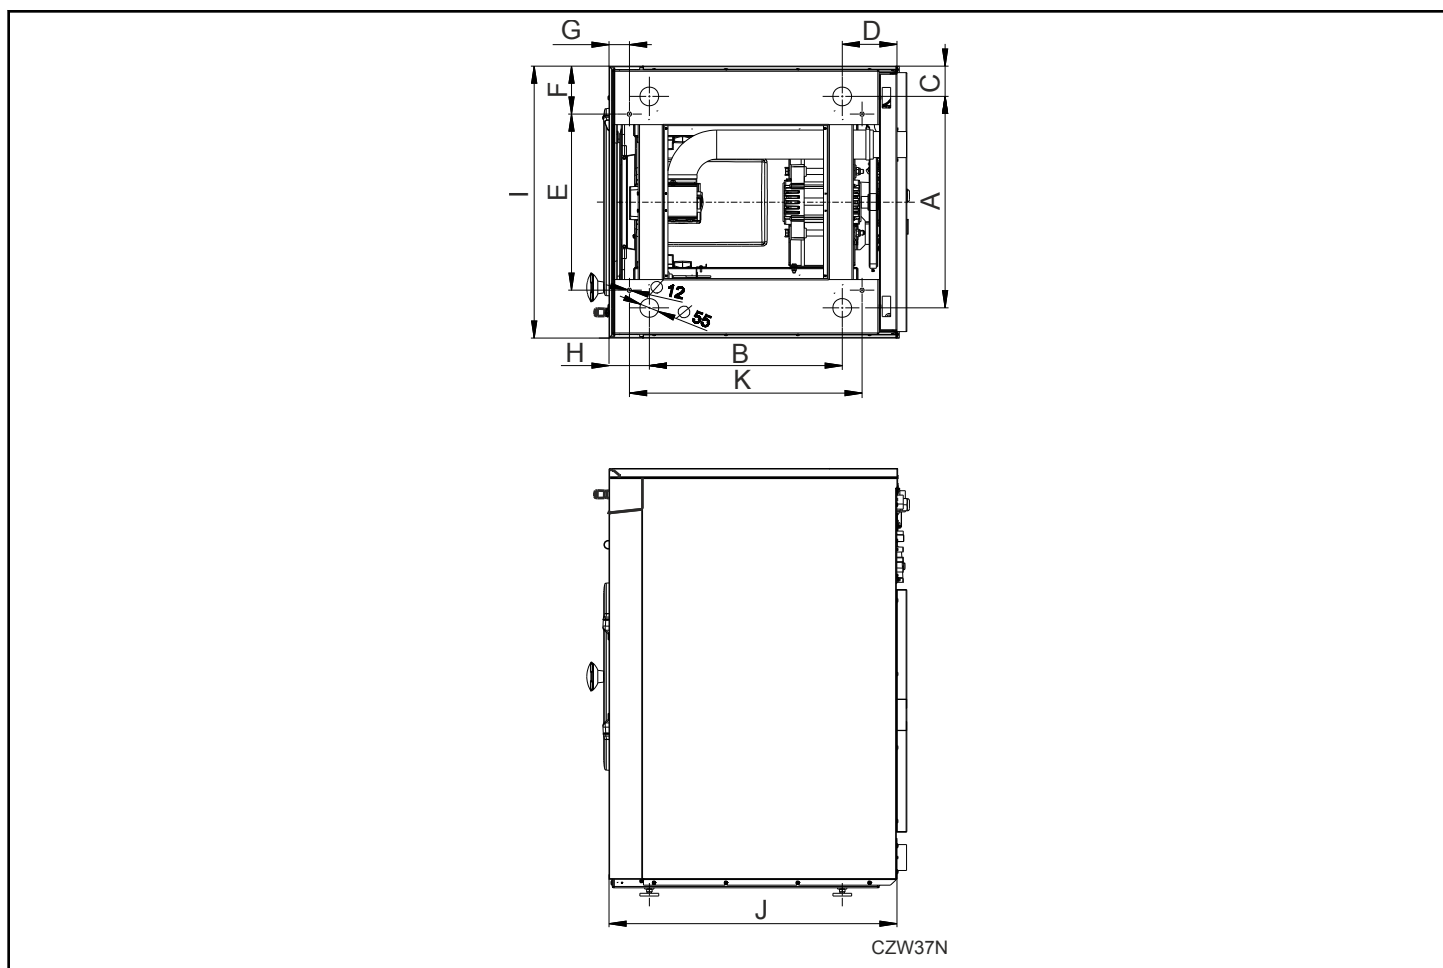

Figure 4
1. Drill 2 holes for the anchoring bolts, refer to *Figure 4* . Hole diameter in machine's base is 0.47 in. [12 mm].